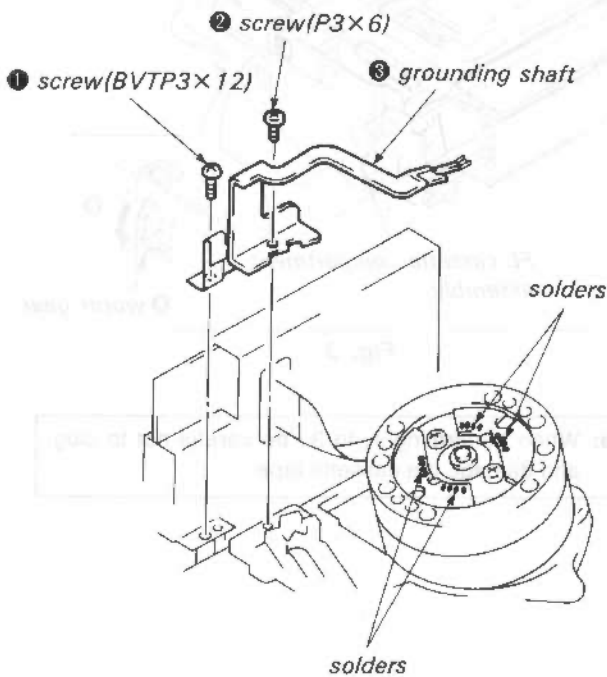

Fig. 4.
- 1) Remove the screw ① (BVTP3×12). (See Fig. 4.)
- 2) Remove the screw ② (P3×6) and take out the grounding shaft ③. (See Fig. 4.)
- 7) Tighten a screw ① (BVTP3×12). (See Fig. 4.)